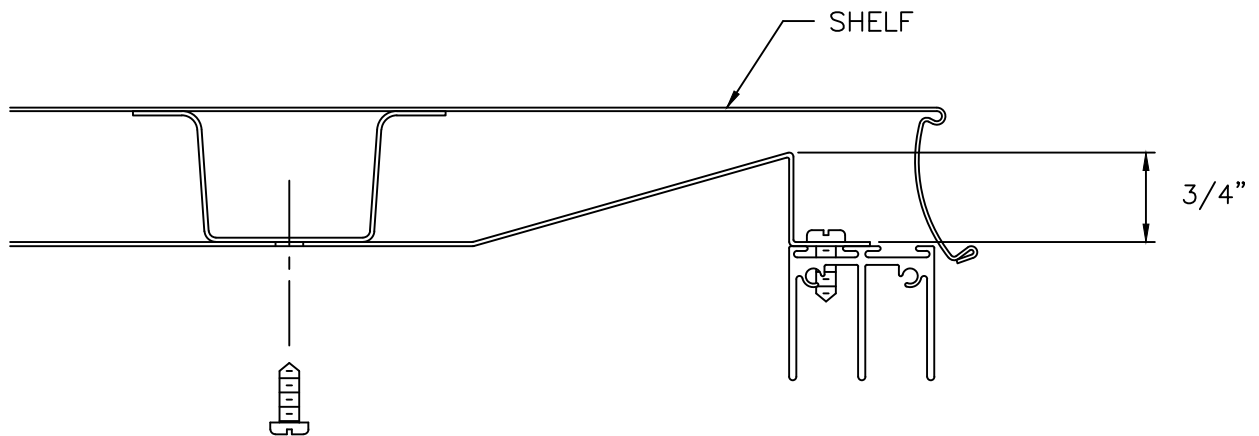

FIGURE 8
C. Bend Straps as shown in FIGURE 8 to provide clearance for applications requiring a light kit